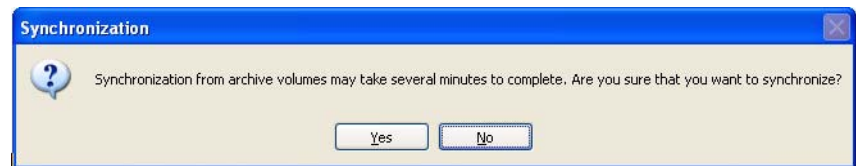

Figure 10-21 Synchronization Dialog
2. A dialog appears asking if you are sure you want to synchronize (Figure 10-21).